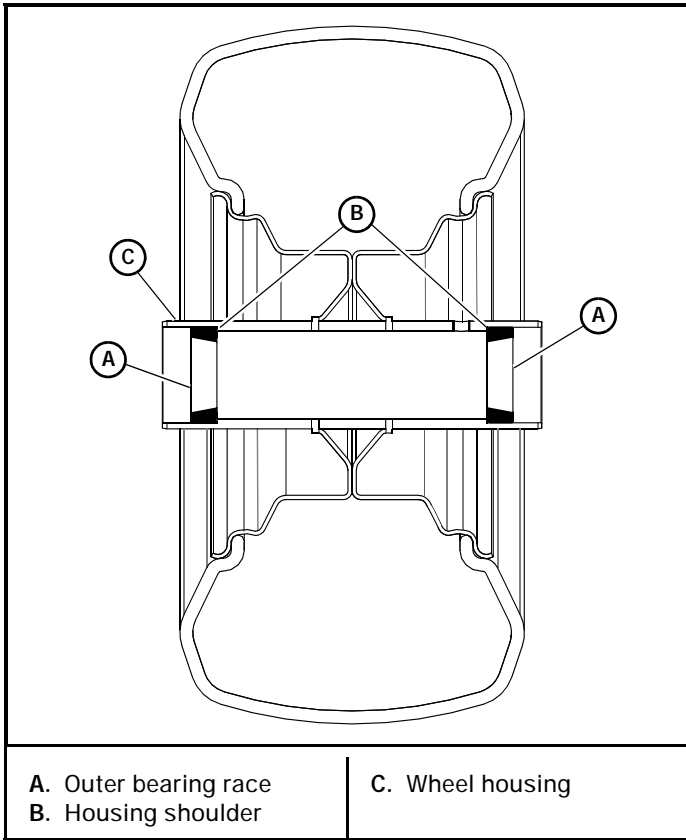

Figure 4-41
1. Press the new outer bearing races into the wheel housing until they are fully seated against the housing shoulder. Figure 4-41